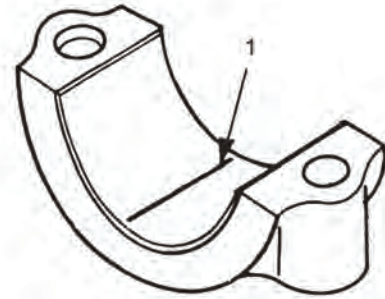

Figure 178
- C. Place a piece of PLASTIGAGE (1, Figure 178) along the full width of the bearing insert.